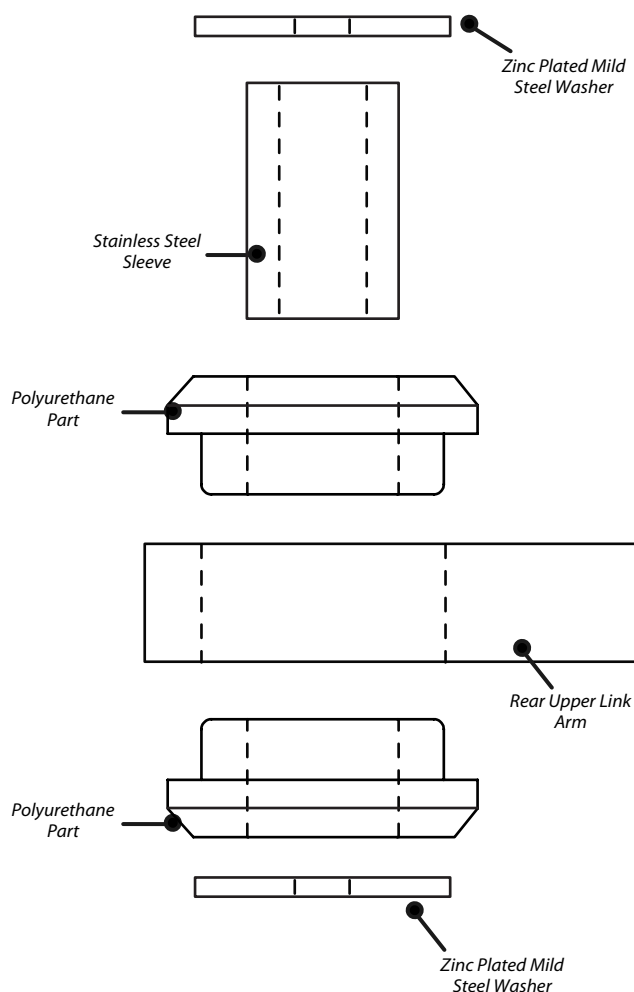

Figure 1
4. Apply some of the supplied grease into the bore of the polyurethane bush and push in the stainless steel sleeve so that it sits flush inside, as shown in Figure 1.